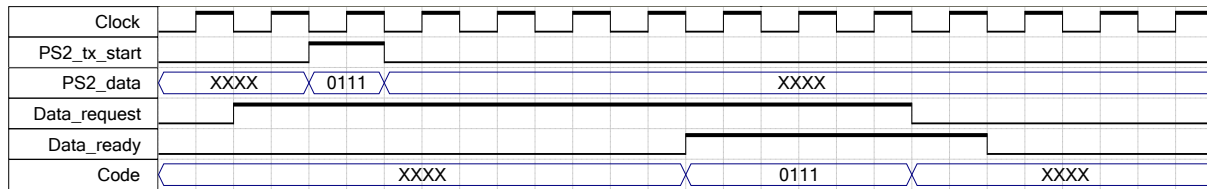

Figure 9: Timing waveform for one cycle, sending data value 0111 from the PS/2 interface to your Synthesizer.
For your reference, we show one cycle of communication in Figure 9. When the handshaking interface FSM sees the *data_request* signal asserted to 1 by the Synthesizer, it is ready to capture data from the keyboard. In the clock period when *tx_start* becomes 1, this data is captured. Here, we assume that the key 7 has been pressed, providing a data value of 0111. Some number of cycles later (depending on your design), the FSM asserts *data_ready* to 1 and waits for the Synthesizer to deassert *data_request* to complete the handshaking protocol.